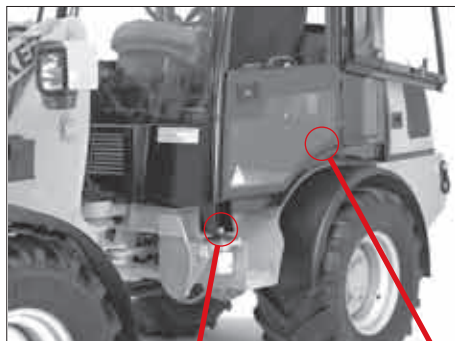

Fig. 72
3. Remove the two mounting bolts from the support bracket on the left of the operator's platform (Fig. 72).